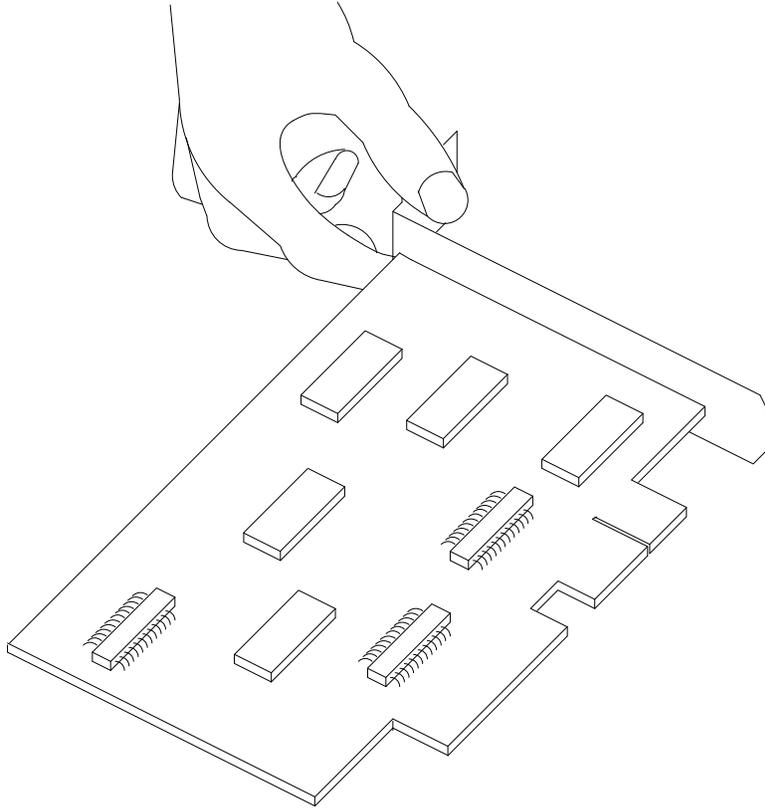
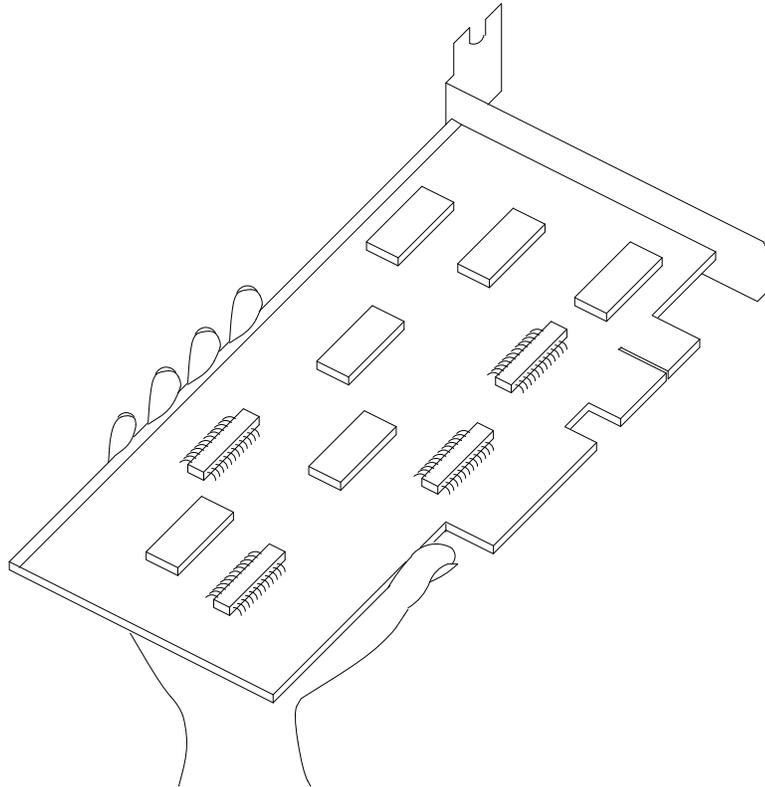

Figure 2-1. How to Hold a Short Circuit Card
Figure 2-2. How to Hold a Large Circuit Card
- Handle a circuit card by the faceplate or side edges only (see Figure 2-1 and Figure 2-2). Do not touch components, leads, or connector areas (gold finger pins).